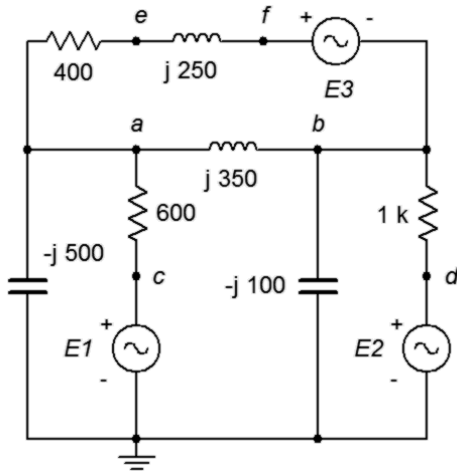

Figure 6.29
64. Given the circuit in Figure 6.29, use mesh analysis to determine v_{fc} . $E1 = 12\angle 0^\circ$, $E2 = 48\angle 0^\circ$, $E3 = 36\angle 70^\circ$.